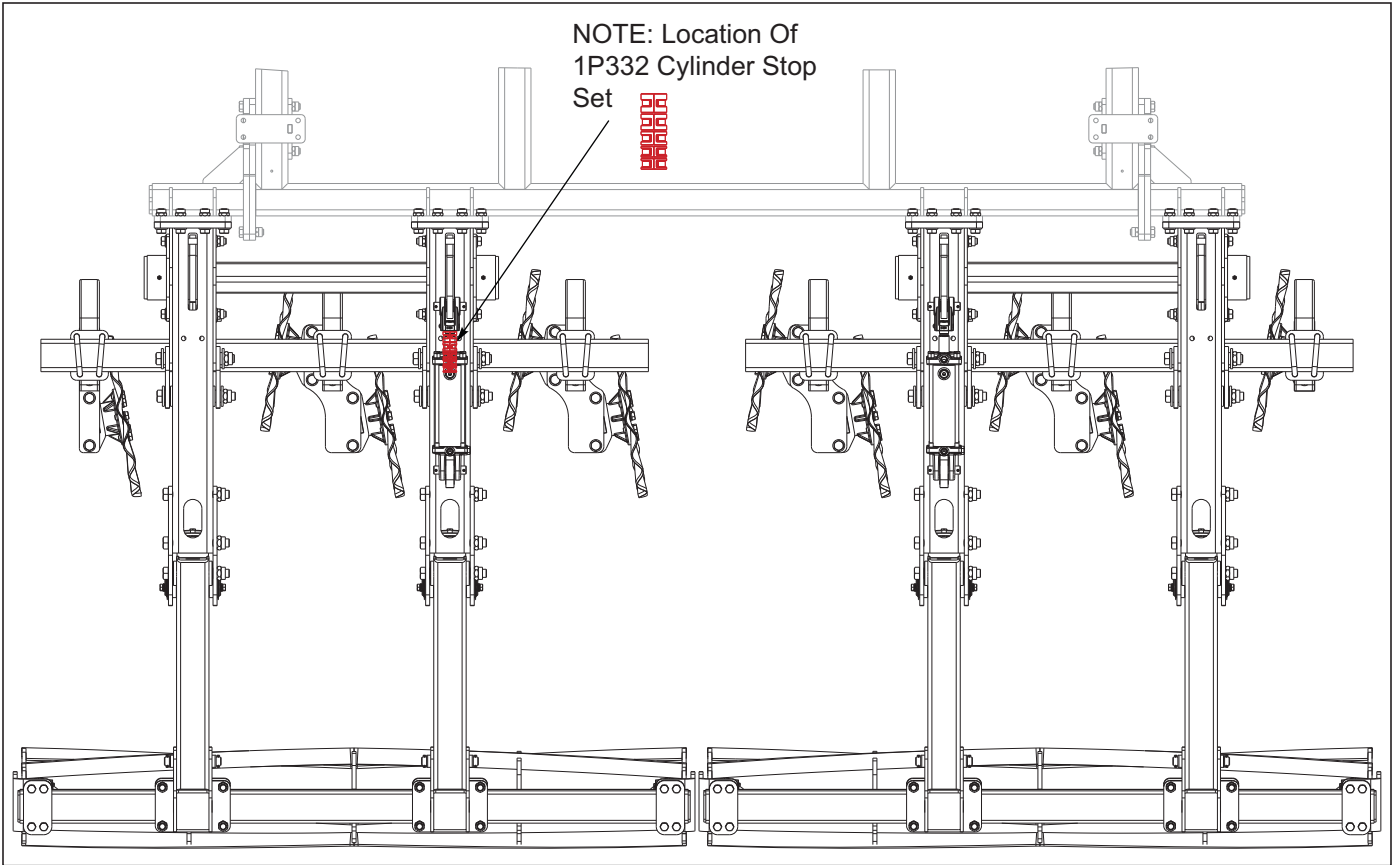

Figure 4-15: Hyd Disc Lev/Reel Cylinder Stop Location
1. Cylinder stops have been provided to maintain depth position for the disc leveler. With the cylinder stops installed, the leveler will still be able to fully raise for transport. See Figure 4-15 for the cylinders to place the cylinder stops on.